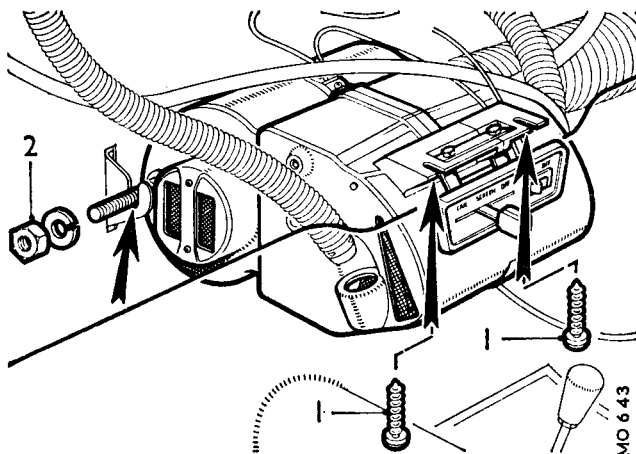

Fig. Rb.1
4. Remove the two screws (1) securing the front of the heater and slacken the nut (2) securing the rear of the unit (Fig. Rb.1).